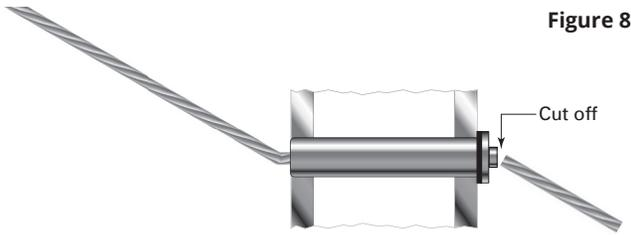

Figure 8
- Cut the cable flush with the hole in the back of the fitting using a cut-off wheel. (Figure 8)